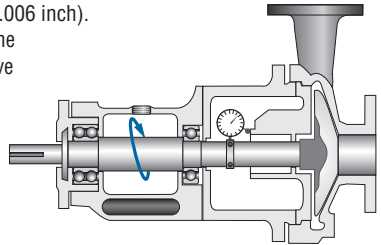

Figure 3
**Note:** make sure that shaft endplay does not affect the reading. Verify the smoothness of the seal chamber face for a good gasket joint. See Figure 3.